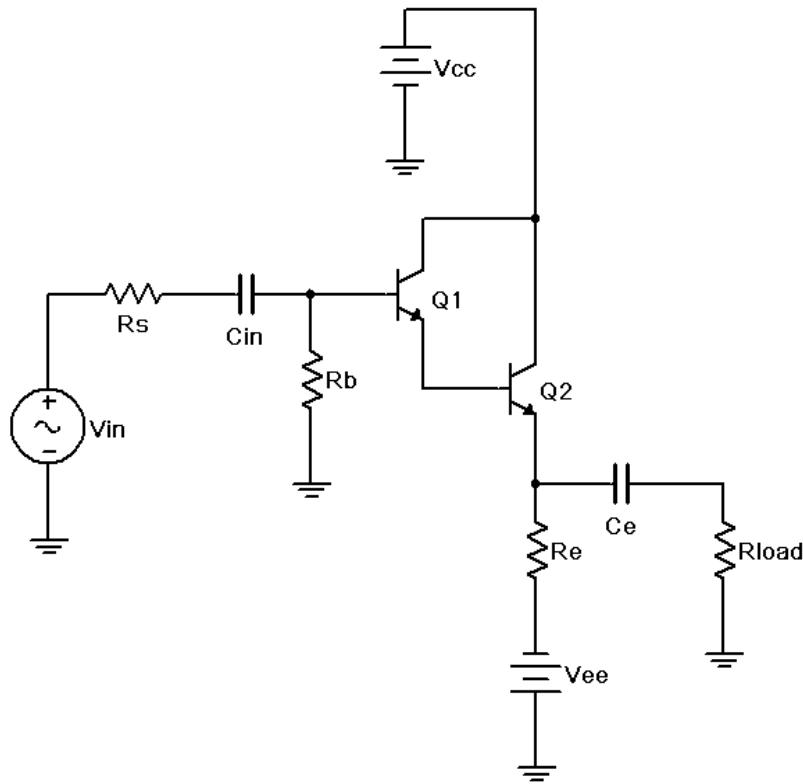

Figure 1
1. Consider the circuit of Figure 1 using $V_{cc} = 5$ volts, $V_{ee} = -12$ volts, $R_s = 22 \text{ k}\Omega$, $R_b = 470 \text{ k}\Omega$, $R_e = 1 \text{ k}\Omega$, $R_{load} = 220 \Omega$, $C_{in} = 10 \mu\text{F}$ and $C_e = 470 \mu\text{F}$. Using the approximation of a negligible DC base voltage, determine the DC collector current and r'_e , and record these in Table 1. Using the r'_e , calculate the expected Z_{in} , $Z_{in(base)}$, Z_{out} and A_v . Record these in Table 2. If a transistor curve tracer or beta checker is not available to get an approximate value of beta for the transistors, estimate the pair at 10,000.
2. Build the circuit of Figure 1 using $V_{cc} = 5$ volts, $V_{ee} = -12$ volts, $R_s = 22 \text{ k}\Omega$, $R_b = 470 \text{ k}\Omega$, $R_e = 1 \text{ k}\Omega$, $R_{load} = 220 \Omega$, $C_{in} = 10 \mu\text{F}$ and $C_e = 470 \mu\text{F}$. Disconnect the signal source and check the DC transistor voltages to ensure that the circuit is biased correctly. (Note: The base should be close to zero while the emitter will be two V_{BE} drops less, or about -1.4 VDC.)